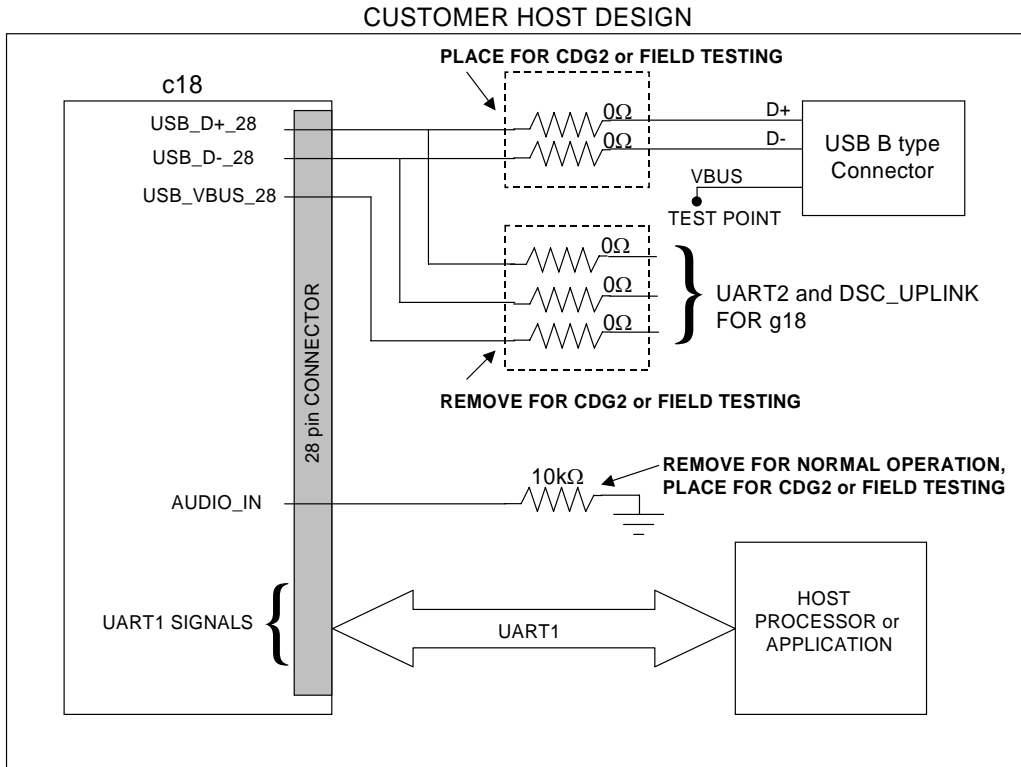

Figure 37. Suggested Configuration for CDG2 Testing
The suggested configuration is shown in Figure 37.
- Solder a wire from the USB_VBUS PAD (J10, pin #1) to the VBUS test point shown in Figure 37.